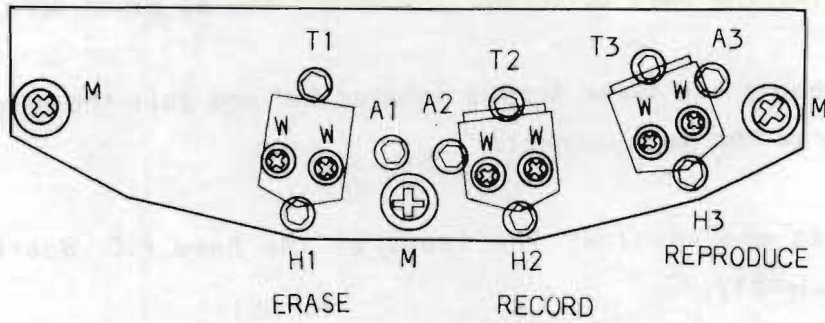

Figure 8-5 Head Assembly
The head assembly is mounted on three tape-guide posts and secured in place by the three screws labeled "M" in Figure 8-5 .
If tape wrap is incorrect, adjust the wrap by loosening the screws labeled "W" as shown in Figure 8-5.
2. Observe the reading on the wave analyzer and turn screw "H" (Figure 8-5 ) 1/4 turn clockwise.